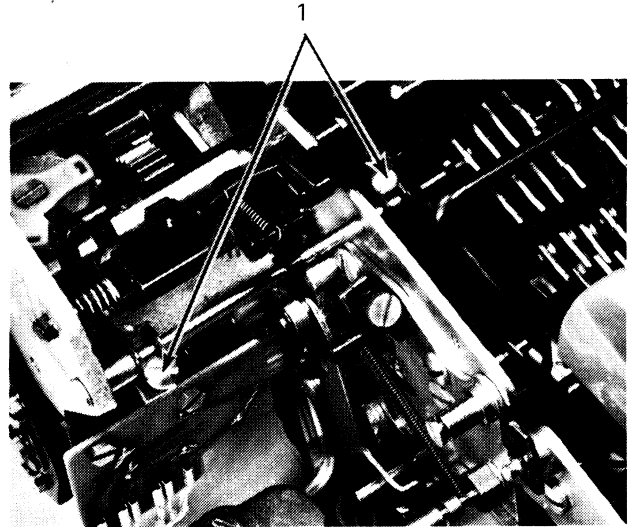

Figure 4-54. Keyboard Removal (Top, Left of Printer)
1. Loosen the two bellcranks on the margin release shaft (No. 1, Figure 4-54). Move the shaft to the left.
14. Remove the left-hand filter shaft bearing retainer (No. 1, Figure 4-54).